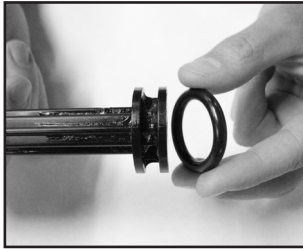

Figure 4
3. Inspect o-ring. If worn or damaged, remove and replace. Lubricate o-ring with petroleum jelly. (See Figure 4)